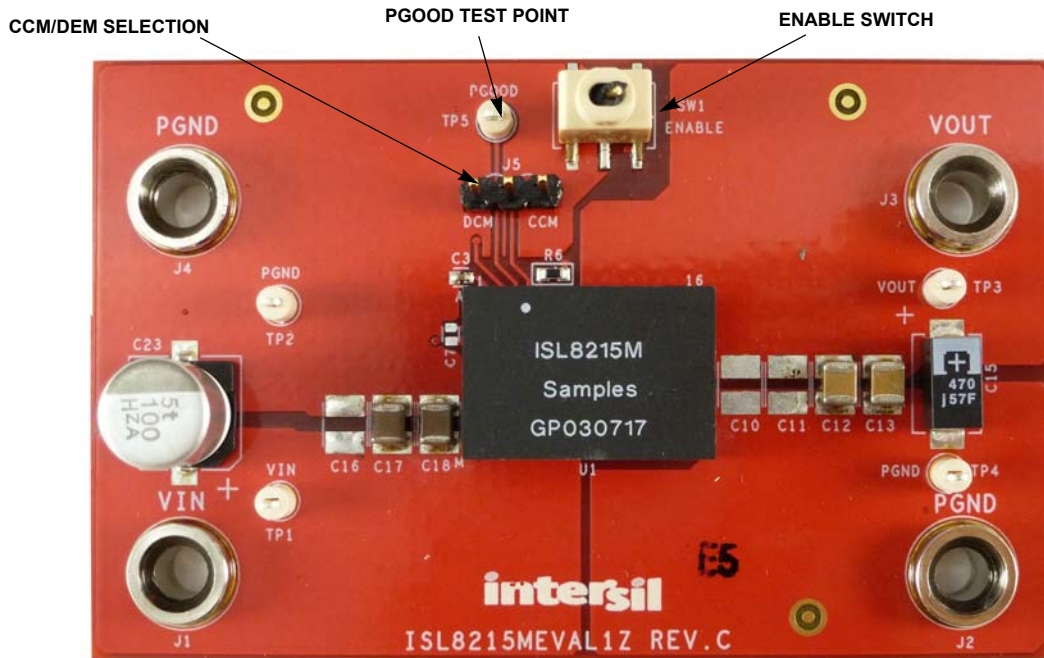
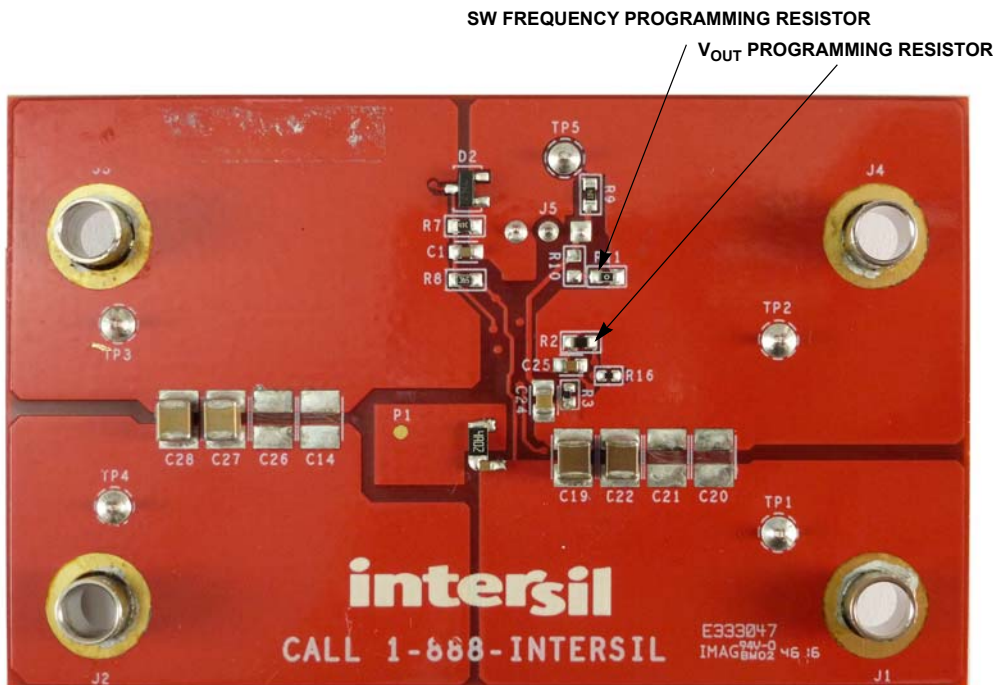

Figure 2. Top of Board
Figure 3. Bottom of Board
The ISL8215MEVAL1Z provides the peripheral circuitry to evaluate the feature set of the ISL8215M. The evaluation board is designed with mechanical switches for ENABLE, several connectors, test points, and jumpers, which makes validation of the module easy. The converter can be enabled and disabled by toggling the ENABLE switch as shown in Figure 2 on page 6. Connecting a jumper across the pins as shown in Figure 2 enables the PSM/DEM mode of operation, which can lead to higher efficiencies at light loads. Selecting features like external frequency synchronization can be performed by hooking the signal generator (square pulse waveform clock signal) to the MOD/SYNC pin. The output voltage (0.6V - 12V) and the switching frequency (300kHz to 2MHz) can be programmed by changing the resistors as shown in Figure 3 on page 6.
- (1) Disable the module by toggling the ENABLE switch as shown in Figure 2 on page 6.
- (2) Use the appropriate cables to connect the DC input power supply to banana sockets J1 and J4 and the electronic load to sockets J3 and J2. Ensure that the polarity for the power leads is correct and the input voltage is within the operating range (7V - 42V) of the module. Use test points TP1 (VIN) and TP2 (PGND) for accurately measuring the input voltage.
- (3) Turn on the input power supply.
- (4) Turn the ENABLE switch to position “SW1 ENABLE” for enabling the module.
- (5) Probe test points TP3 (VOUT) and TP4 (PGND) to observe the output voltage. The output voltage should read 3.3V.
- (6) Adjust input voltage,  $V_{IN}$ , within the specified range and observe output voltage. The output voltage variation should be within  $\pm 1.5\%$ .
- (7) Adjust the load current to within the specified range (0 - 15A) and observe output voltage. The output voltage variation should be within  $\pm 1.5\%$ .
- (8) To change  $V_{OUT}$ , disconnect the evaluation board from the setup and populate a standard 0603 resistor at the  $R_2$  placeholder location on the bottom layer. The “Output Voltage Resistor Settings” table in the ISL8215M datasheet can be used as a reference for programming different output voltages. Refer to the “ISL8215M Design Guide Matrix” table in the ISL8215M datasheet for correct input and output capacitors, switching frequency, and output voltage combinations.
- (9) The switching frequency can be modified by populating a standard 0603 resistor at the  $R_{11}$  placeholder location on the bottom layer. Refer to “Equation 2” in the ISL8215M datasheet for selecting the correct value of  $R_{11}$  within admissible operating range (300kHz - 2MHz).